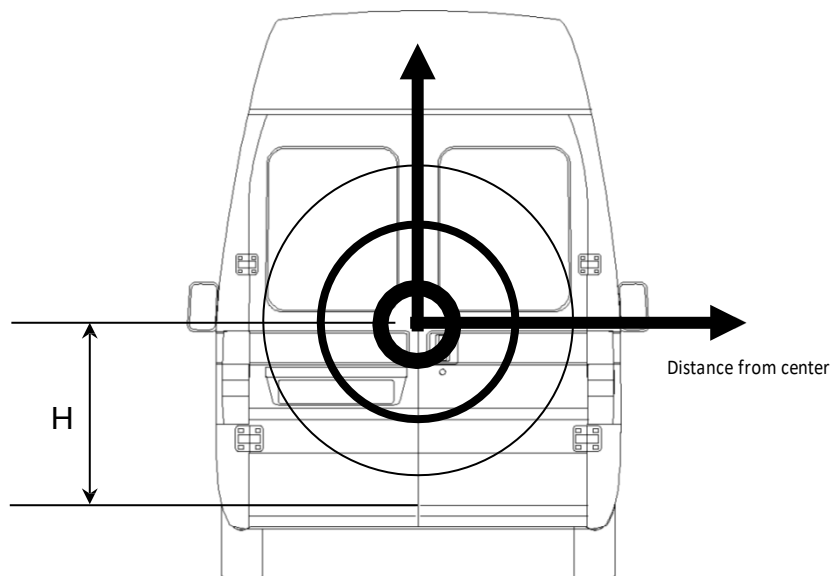

Fig.4
- The positioning of the padlock body with respect to the lower edge of the door “H” must be such as to maximize effectiveness, therefore as much as possible in the center of the door (vedi fig.4) in order to reduce leverage effects..